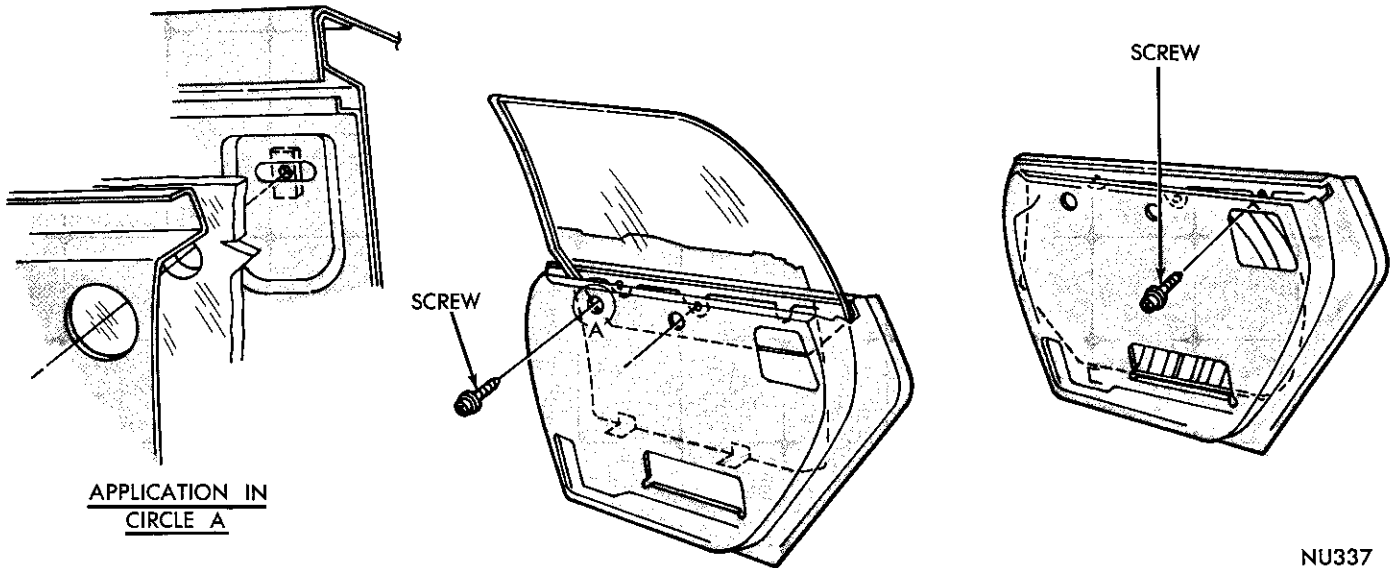
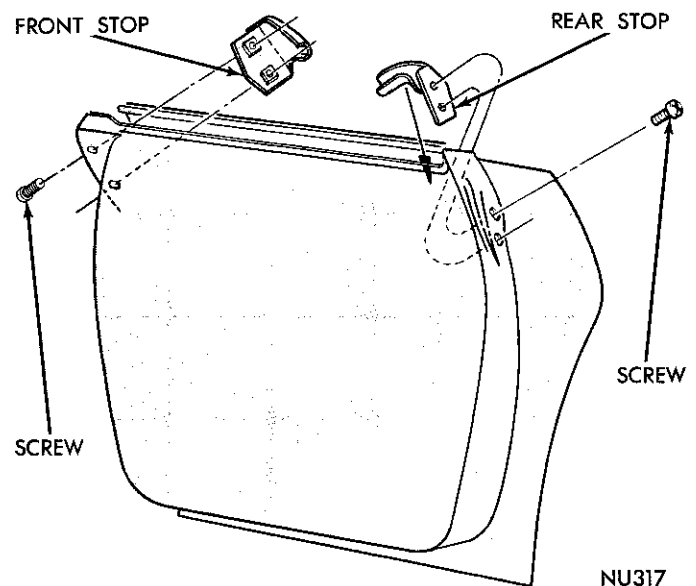

Fig. 60—Track Panel Upper Attachment
Fig. 61—Up-Stop Brackets
(1) Remove track panel to door panel upper screws (Fig. 60).
(2) Remove down-stop adjusting bracket to track panel screws.
(3) Remove up-stop adjusting brackets from door panel (Fig. 61).
The rear up-stop (Fig. 61) is attached to slotted areas in the door shut face between the inner and outer panels. The front up-stop (Fig. 61) is attached to slotted areas of the inside panel through the glass